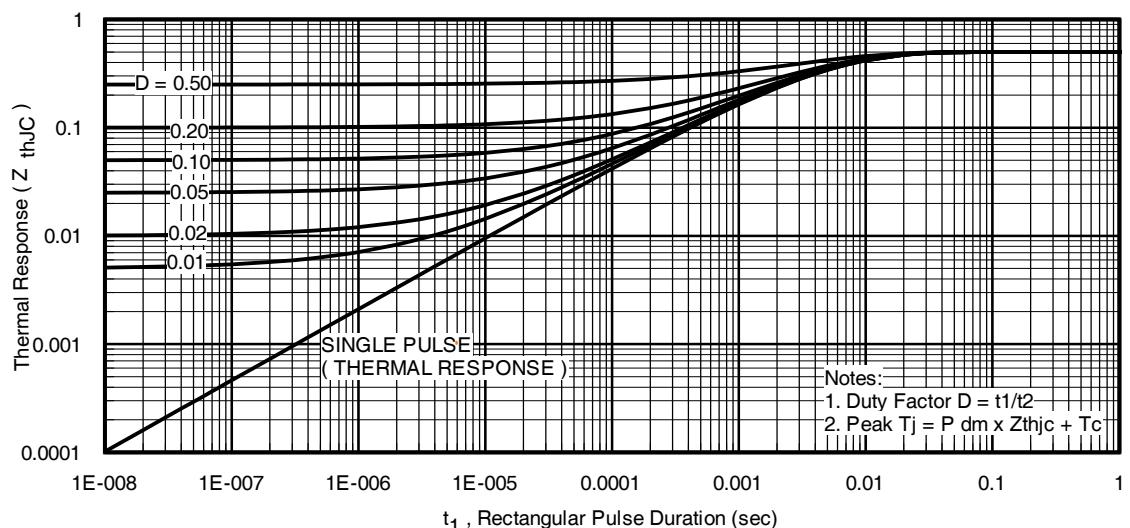

Fig 11. Maximum Effective Transient Thermal Impedance, Junction-to-Case
- ② Repetitive rating; pulse width limited by max. junction temperature. (See fig. 11)
- ③ Limited by $T_{J\max}$, starting $T_J = 25^\circ\text{C}$, $L = 0.24\text{mH}$, $R_G = 25\Omega$, $I_{AS} = 75\text{A}$, $V_{GS} = 10V$. Part not recommended for use above this value.
- ④ Pulse width $\leq 1.0\text{ms}$; duty cycle $\leq 2\%$.
- ⑤ $C_{oss\ eff.}$ is a fixed capacitance that gives the same charging time as C_{oss} while V_{DS} is rising from 0 to 80% V_{DSS} .
- ⑥ This value determined from sample failure population, starting $T_J = 25^\circ\text{C}$, $L = 0.24\text{mH}$, $R_G = 25\Omega$, $I_{AS} = 75\text{A}$, $V_{GS} = 10V$.
- ⑦ This is applied to D²Pak When mounted on 1" square PCB (FR-4 or G-10 Material). For recommended footprint and soldering techniques refer to application note #AN-994
- ⑧ Max $R_{DS(on)}$ for D²Pak and TO-262 (SMD) devices.
- ⑨ TO-220 device will have an R_{th} value of $0.45^\circ\text{C}/\text{W}$.
- ⑩ All AC and DC test condition based on old Package limitation current = 75A.